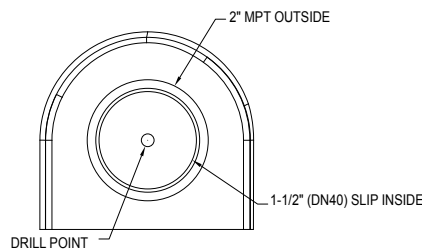

Figure 3.2
- 1) Adding bathroom fixtures - The Qwik Jon® Ultima is designed to accept bathroom fixtures utilizing the two side inlets. These inlets can be attached via the 2" MPT (outside diameter) or the 1-1/2" (DN40) slip (inside diameter). These inlets must have the inner portion drilled out using a 1-3/4" (44 mm) hole saw (see Figure 3.2). This is to ensure there are no leakage problems from inlets not in use. When utilizing side inlets, install a check valve on the incoming line.